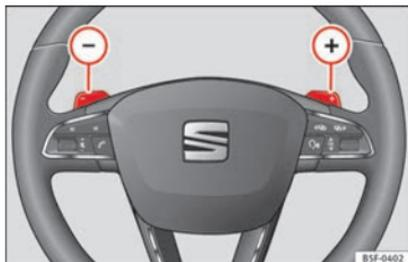

Fig. 172 Steering wheel with paddle levers for automatic gearbox.
- Press the right paddle lever (+) towards the steering wheel to change up ►► Fig. 172.
- Press the left paddle lever (-) towards the steering wheel to change down ►► Fig. 172.
If the paddle levers **»» Fig. 172** are used in the normal or sport programme, the system switches temporarily to “tiptronic” mode. To exit “Tiptronic” mode again, press the right paddle lever (+) towards the steering wheel for approximately one second. You will also leave “tiptronic” mode if the paddle levers are not moved for a certain time.